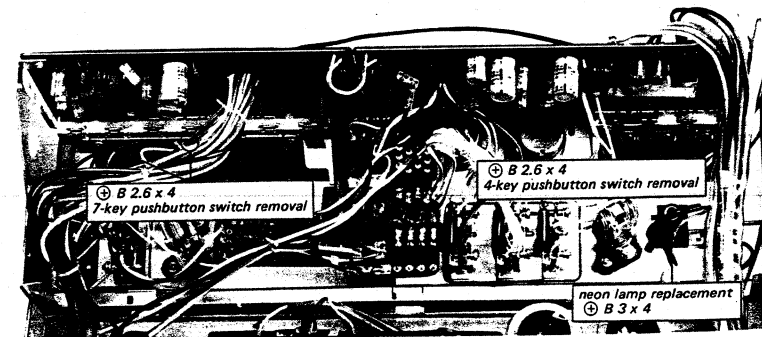

Fig. 2-5. Pushbutton switch and neon lamp replacement
1. Remove the three screws (⊕ B 2.6 x 4) securing the pushbutton switch to the front subchassis as shown in Fig. 2-5.
1. Remove the screw (⊕ B 3 x 4) securing the neon lamp to the chassis as shown in Fig. 2-5.